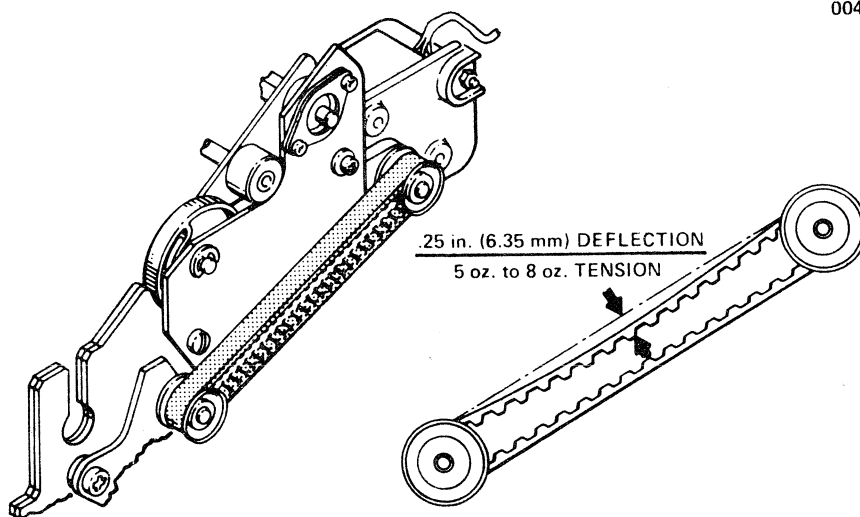

Figure 3-18. VFU TIMING BELT TENSION, ADJUSTMENT
2. VFU Timing Belt (Refer to Figure 3-18)